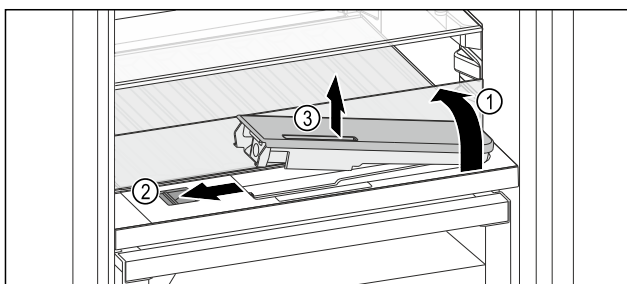

Fig. 116
- Lift the glass panel and fold to the back as far as it will go Fig. 116 (1).
- Slide the slider Fig. 116 (2) to the left.
- Remove the water tank Fig. 116 (3).